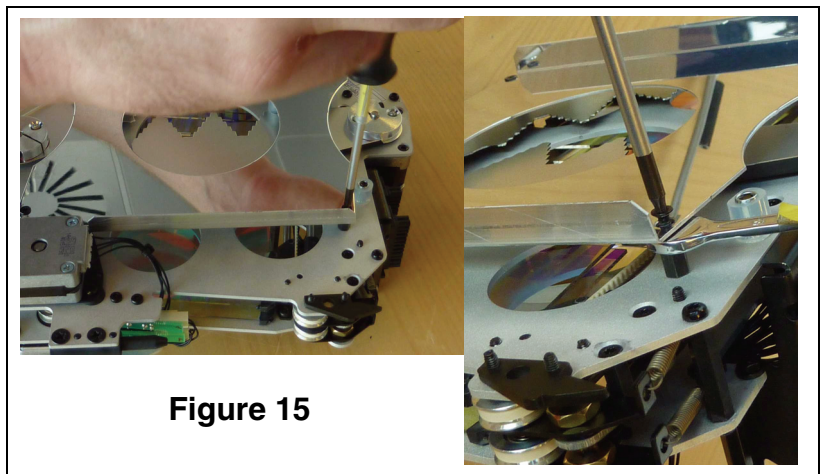

Figure 15
18. See Figure 15. Holding the pillar bolts under the heat deflector plate with a 5.5 mm open-ended wrench, remove the three Torx 10 retaining screws from the heat deflector plate and remove the plate for easier access during the next step.